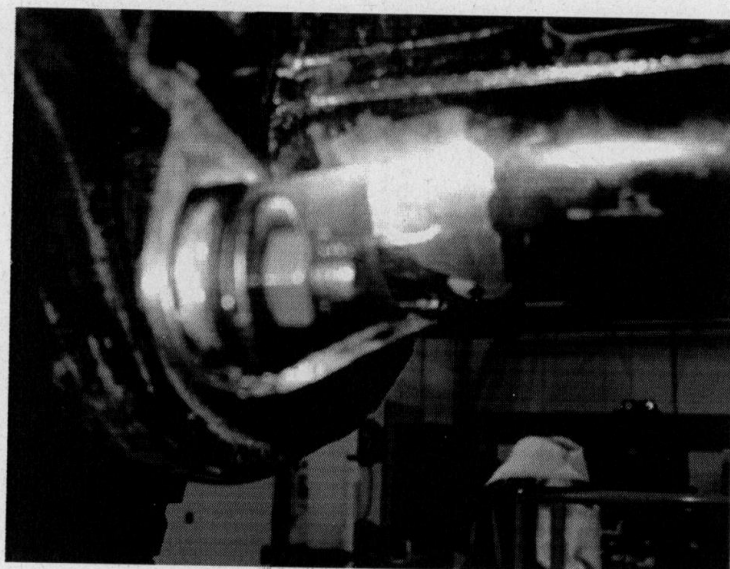

Fig 5.
9.15 Use a locator M12 bolt, nut and two penny washers, bolt the bracket to the axle ensuring that it is located straight, see fig 5.